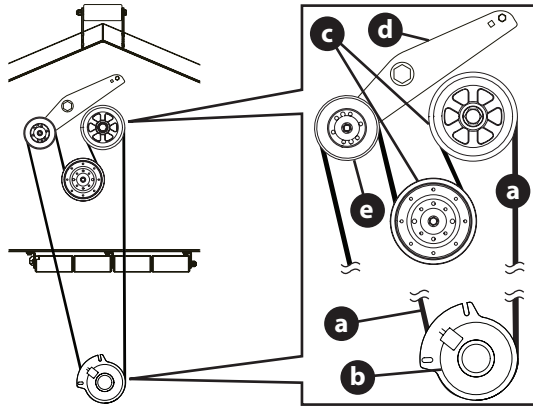

Fig. 38
1. Remove the PTO belt (a) from the deck as instructed in STEPS 1 - 3 in the Deck Removal section then remove it from around the PTO clutch (b) (Fig. 38).
2. Route the PTO belt (a) (Fig. 38).
3. After routing the belt around the PTO pulley (c), use a 1/2" (12.7 mm) drive in the idler pulley bracket (d) and turn towards the right of the mower to finish routing the belt around the idler pulley (e) (Fig. 38).